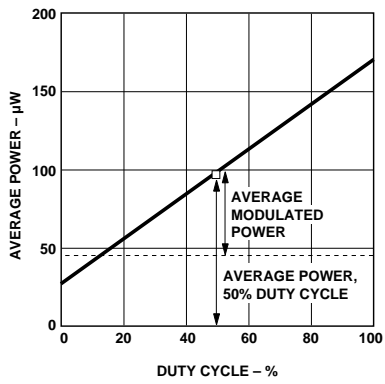

Figure 3. Average Modulated Power.
- To allow the LED to switch at high speeds, the recommended drive circuit modulates LED light output between two non-zero power levels. The modulated (useful) power is the difference between the high and low level of light output power (transmitted) or input power (received), which can be measured with an average power meter as a function of duty cycle (see Figure 3). Average Modulated Power is defined as one half the slope of the average power versus duty cycle: